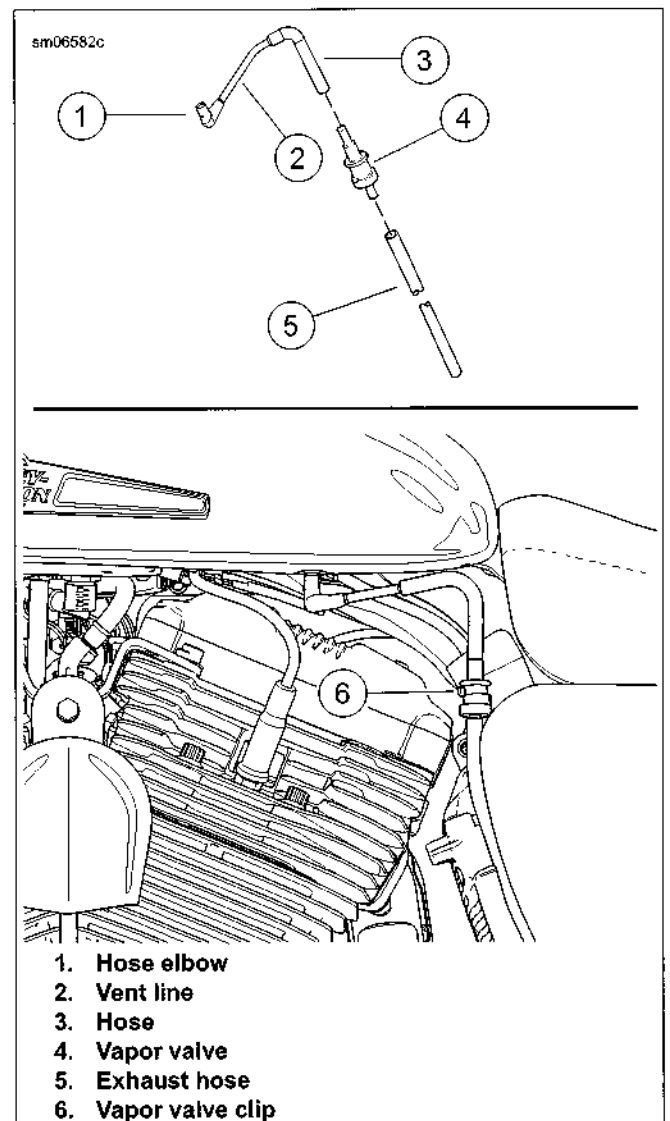

Figure 4-7. Vent Hose and Vapor Valve
1. See Figure 4-7. Assemble vent hose elbow (1), line (2), vapor valve (4), hose (3) and exhaust hose (5).